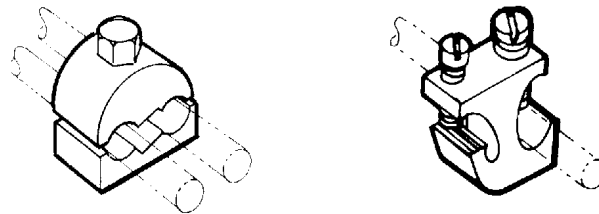

Figure 4.61
4.7.2 Cable Trays with Separate Equipment Grounding Conductor Installed (See Figure 4.61.)